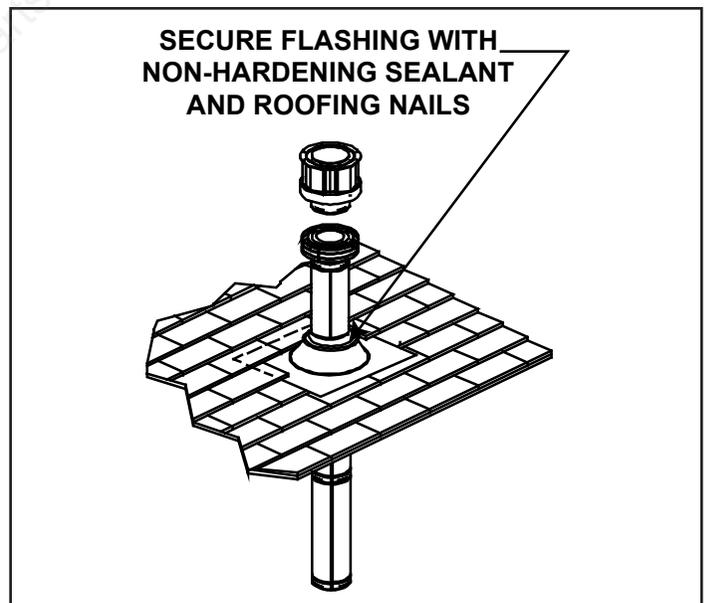

Figure 7.24
Step 8 - Slip the storm collar over the pipe, and push it down to the top of the flashing (Figure 7.24). Use non-hardening sealant above and below the joint between the storm collar and the pipe.